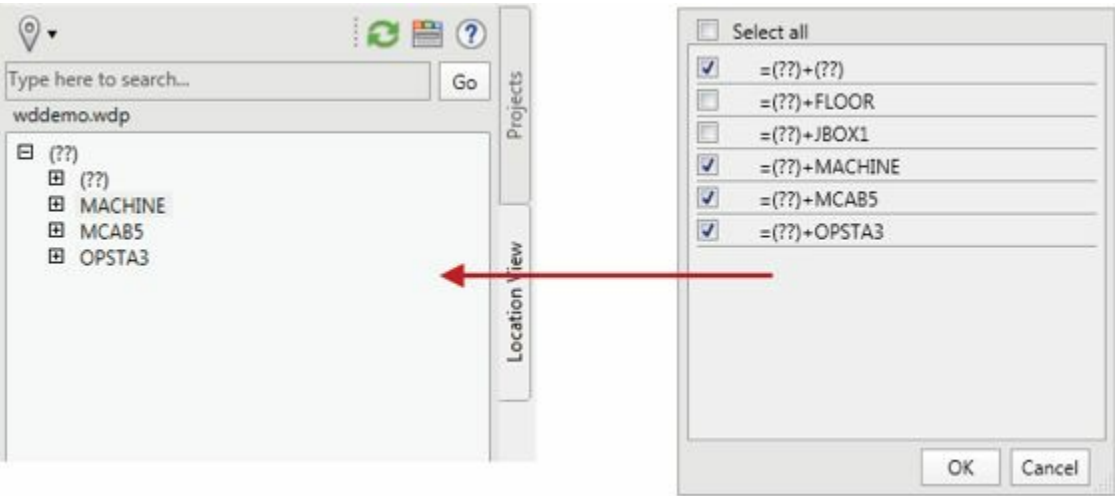

Figure-48. Locations and installations after filtering
- Clear the check boxes for the locations and installations that you do not want to see in the **Location View** tab and click on the **OK** button from the drop-box. The locations and installations for which the check box is selected will be displayed in the **Location View** tab; refer to Figure-48.